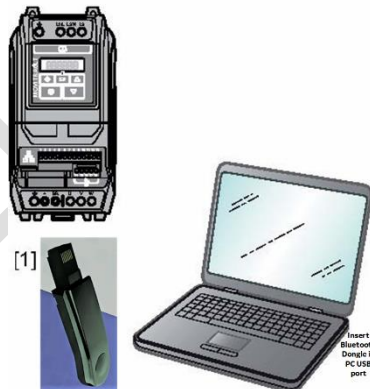

Figure 47: Bluetooth Connection Inverter to Computer
- 3) For Bluetooth, follow the procedure documented below Figure 47.
- c) via Bluetooth (Figure 47)
- b) Via the Bluetooth® parameter module IC855-BLUE (Figure 47). This is a future product offering. It is presented here for completeness of connection methods. Further details will be provided once available.